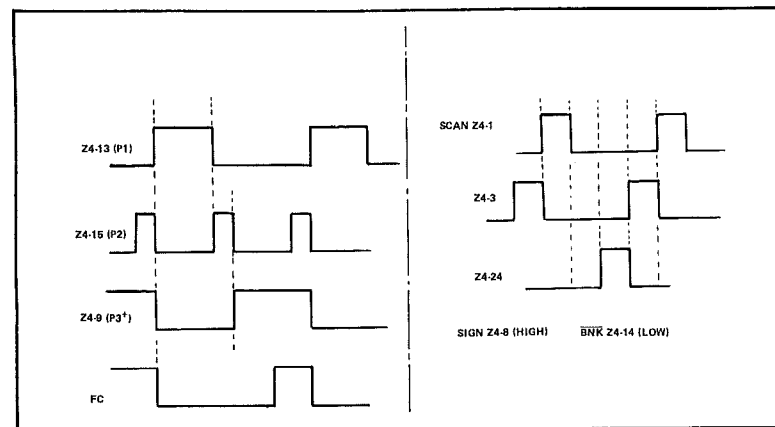

Fig. 4-7. Program Logic Waveforms
- b. Observe waveforms at Z4 outputs and compare with those illustrated in Figure 4-7. If satisfactory, then Z4 is functioning properly.